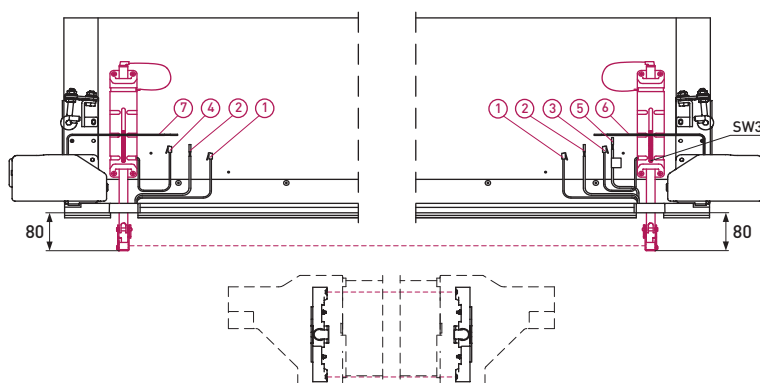

Fig. 1 — Position adjustment of the pin with sensor for **PFS-200KIT**
- When the door is delivered, the **PFS-200KIT** safety system with brackets is mounted on the door leaf in a transport position with the electric cables connected to the connection points. It is necessary to adjust the system after the door is installed (*fig. 1*):
5. Insert the door leaf cables into kit boxes through cable inlets. *Fig. 1* shows an example of cables for industrial door with wicket with flat threshold: